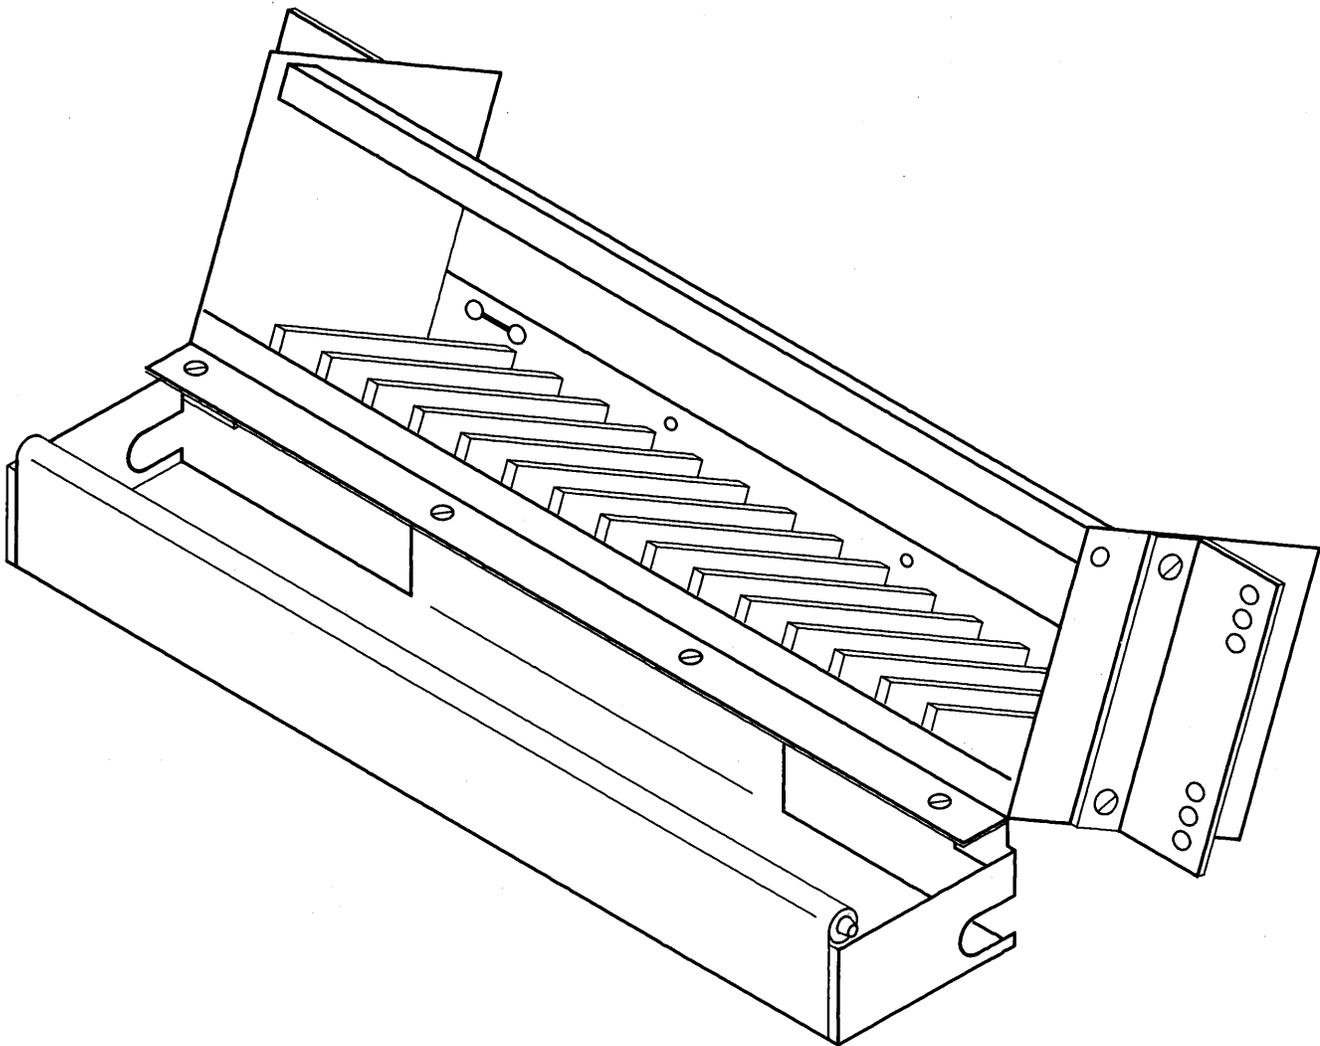

Fig. 18—103A Apparatus Mounting
3.07 Where several 97A-type and 97B connecting blocks are to be installed in the same location, a 103A apparatus mounting may be used (Fig. 18).